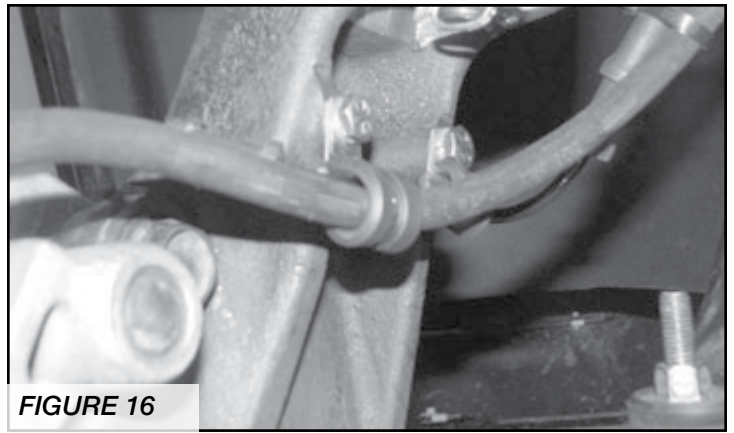

**FIGURE 14**
28. Install the rotor and the small bolt retaining the rotor and torque to 12 ft-lbs. Install the caliper and torque to 220 ft-lbs. **SEE FIGURE 14**